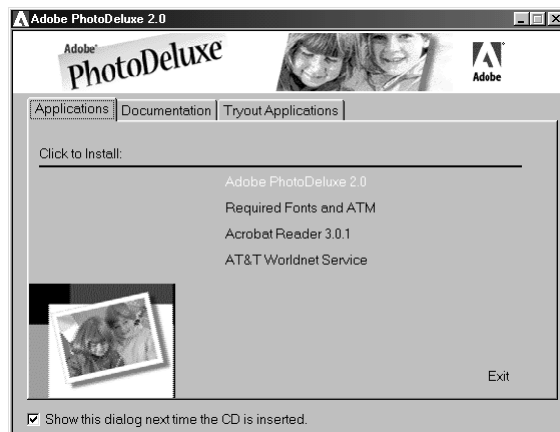

Figure 15: Installing Adobe PhotoDeluxe 2.0
5. Click on 'Accept' to accept the license agreement and continue with the installation. A screen as in Figure 15 is displayed.